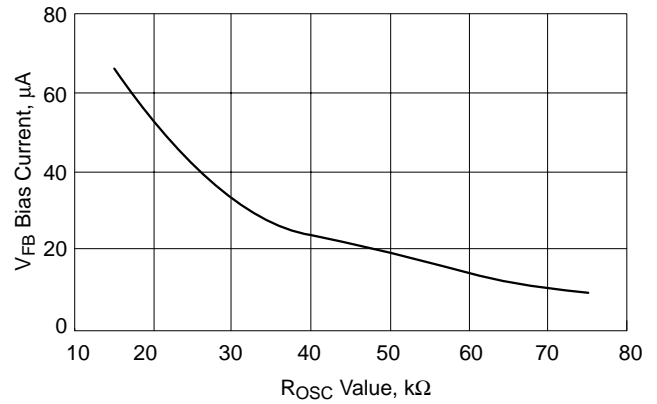

Figure 4. VFB Bias Current vs. Rosc Value
2. The  $V_{\text{FB}}$  Bias Current changes with the value of  $R_{\text{OSC}}$  per Figure 4.
To set the no-load positioning a resistor (R9) is placed between the output voltage and  $V_{FB}$  pin. The  $V_{FB}$  bias current will develop a voltage across the resistor to decrease the output voltage. The  $V_{FB}$  bias current is dependent on the value of ROsc. See Figure 4 on the datasheet.